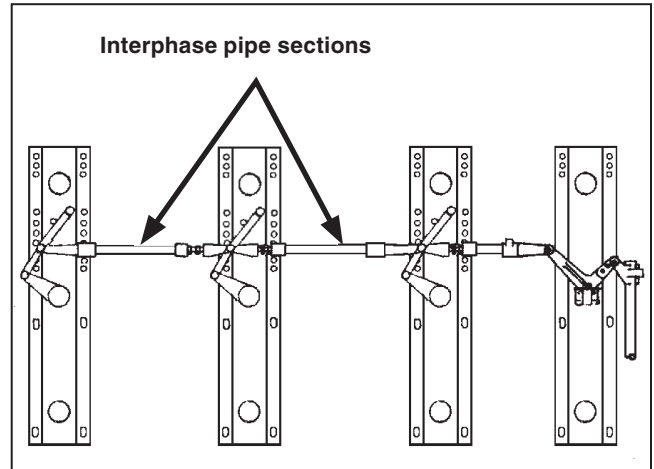

Figure 10. Pipe connecting switch poles.
STEP 8. Install the pipe sections connecting the switch poles. See Figure 10. Follow the directions in “Installing Pipe Couplings with Piercing Set Screws” on page 12.